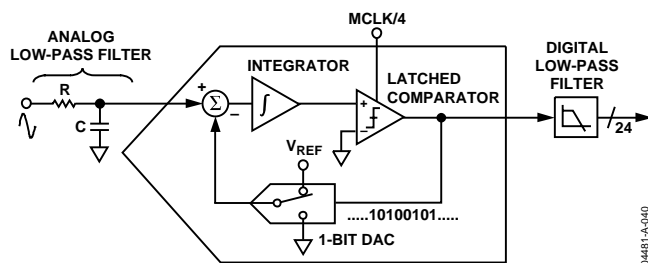
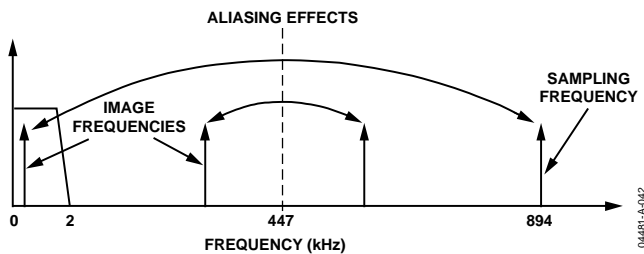

Figure 39. First-Order  $\Sigma\text{-}\Delta$  ADC
Figure 41. ADC and Signal Processing in Channel 1 Outline Dimensions
The analog-to-digital conversion is carried out using two second-order  $\Sigma\text{-}\Delta$  ADCs. For simplicity, the block diagram in Figure 39 shows a first-order  $\Sigma\text{-}\Delta$  ADC. The converter comprises two parts: the  $\Sigma\text{-}\Delta$  modulator and the digital low-pass filter.
Figure 39 also shows an analog low-pass filter (RC) on the input to the modulator. This filter prevents aliasing, which is an artifact of all sampled systems. Aliasing means that frequency components in the input signal to the ADC that are higher than half the sampling rate of the ADC appear in the sampled signal at a frequency below half the sampling rate. Figure 41 illustrates the effect. Frequency components (shown as arrows) above half the sampling frequency (also known as the Nyquist frequency, i.e., 447 kHz) are imaged or folded back down below 447 kHz. This happens with all ADCs, regardless of the architecture. In the example shown, only frequencies near the sampling frequency, i.e., 894 kHz, move into the band of interest for metering, i.e., 40 Hz to 2 kHz. This allows the use of a very simple LPF (low-pass filter) to attenuate high frequency (near 900 kHz) noise, and it prevents distortion in the band of interest. For conventional current sensors, a simple RC filter (single-pole LPF) with a corner frequency of 10 kHz produces an attenuation of approximately 40 dB at 894 kHz—see Figure 41. The 20 dB per decade attenuation is usually sufficient to eliminate the effects of aliasing for conventional current sensors; however, for a di/dt sensor such as a Rogowski coil, the sensor has a 20 dB per decade gain. This neutralizes the –20 dB per decade attenuation produced by one simple LPF. Therefore, when using a di/dt sensor, care should be taken to offset the 20 dB per decade gain. One simple approach is to cascade two RC filters to produce the –40 dB per decade attenuation.